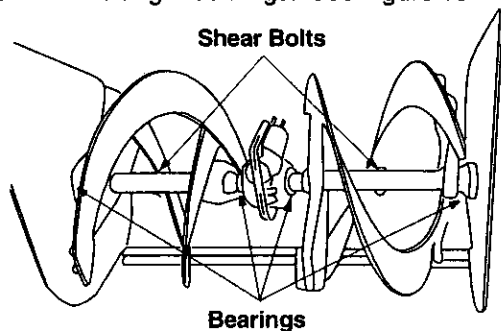

Figure 16
- At least once a season, remove shear bolts on auger shaft. Oil or spray lubricant inside shaft and lubricate the auger bearings. See Figure 16.
- The augers are secured to the spiral shaft with two shear bolts and hex lock nuts. See Figure 16. If you hit a hard foreign object or ice jam, the snow thrower is designed so that the bolts may shear.